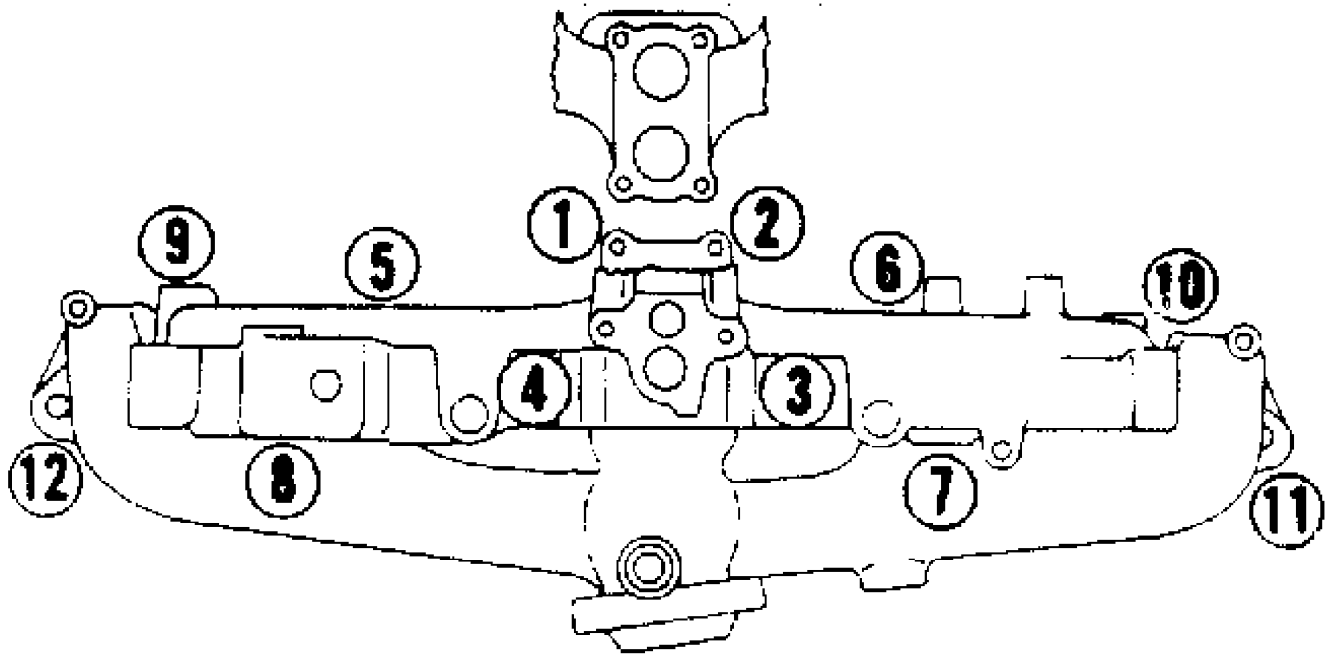

Fig. 2: Manifold Tightening Sequence (4.2L)
1) Install new gasket. Install exhaust manifold and loosely install bolts. Install intake manifold. Tighten bolts to specification in proper sequence. See Fig. 2.